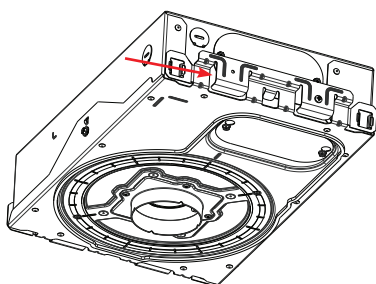
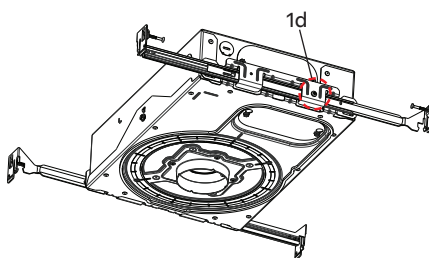

fig. 1
fig. 2
- b. Insert the inner hanger bar into the hanger bar slot as shown in fig. 1 on the end of the D2 housing. Ensure the hanger bar is oriented as shown in fig. 2.
- c. Insert the outer hanger bar into the same housing slot as shown in fig. 1, locking the inner and outer halves together. Tighten the hanger bar lock screw.
- b. Nail or screw the ends of both hanger bars into the wooden joists, fixing the housing in place* (see fig. 2).